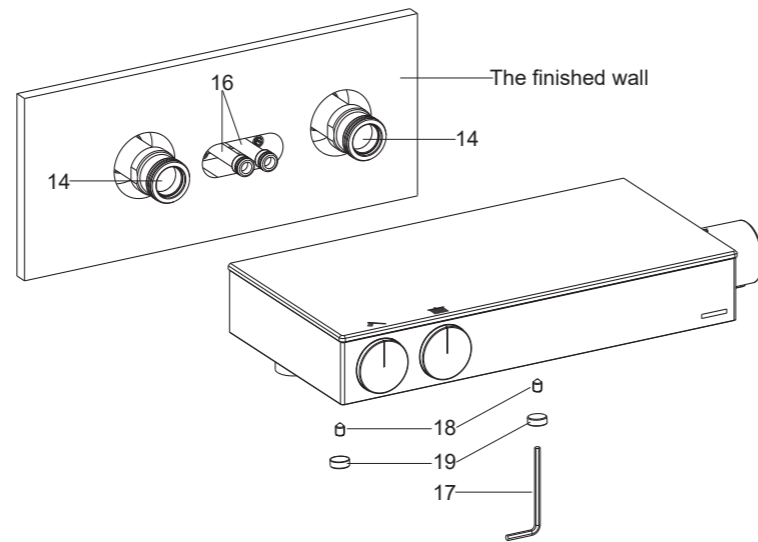

Fig. 6
As **Fig. 6** shown, adjust two screws(18) with 3mm hex wrench(17). Install the faucet body to the connections(14) and showerhead tubes(16) until it is against the finished wall. Tighten two screws(18) with 3mm hex wrench. Press the plugs(19) into the faucet.